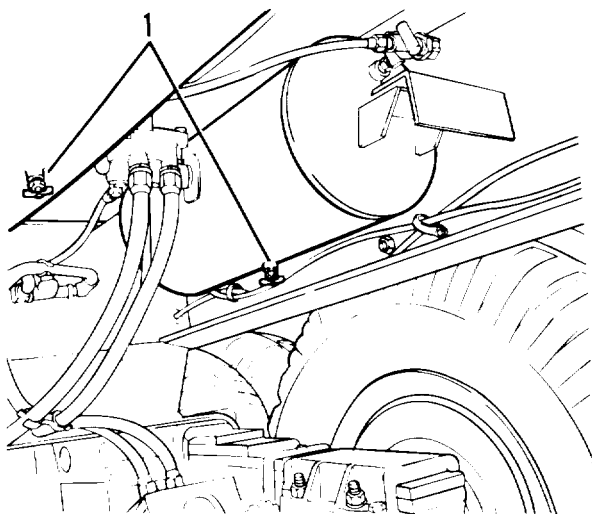

Figure 3-6. Air reservoir
- b. Open drain cock (1, figure 3-6) and allow pressure to drain.
- c. Close drain cock (1).